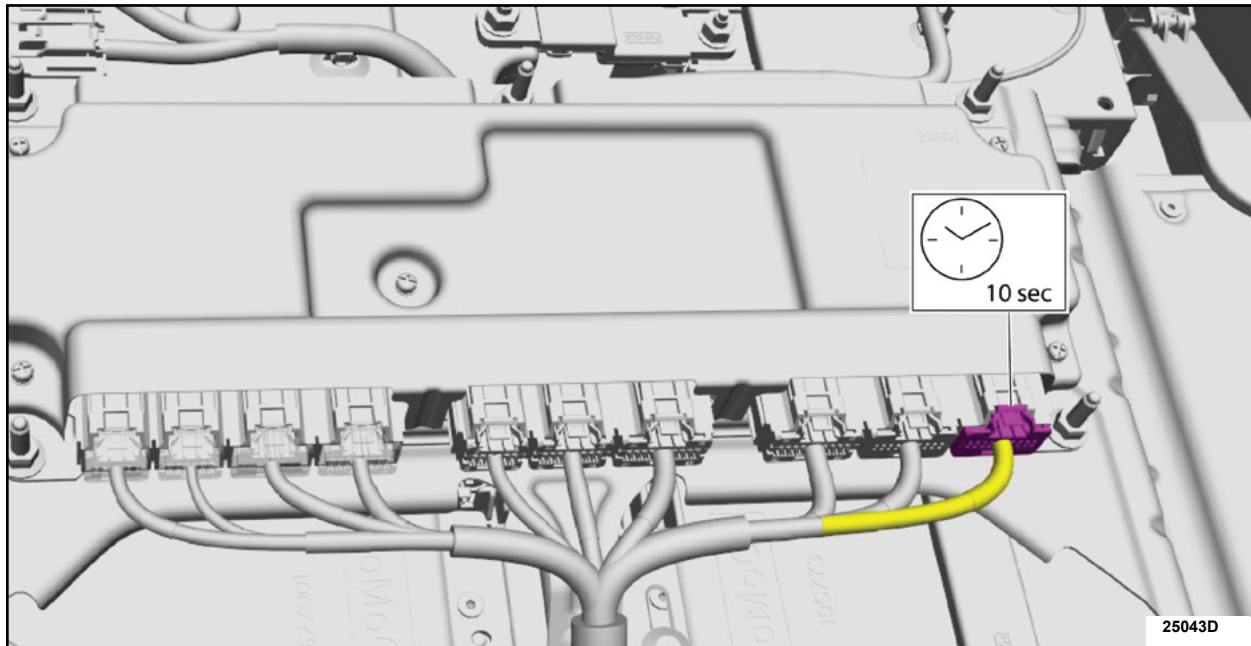

FIGURE 4
6. Disconnect the BECM electrical connector. See Figure 4.